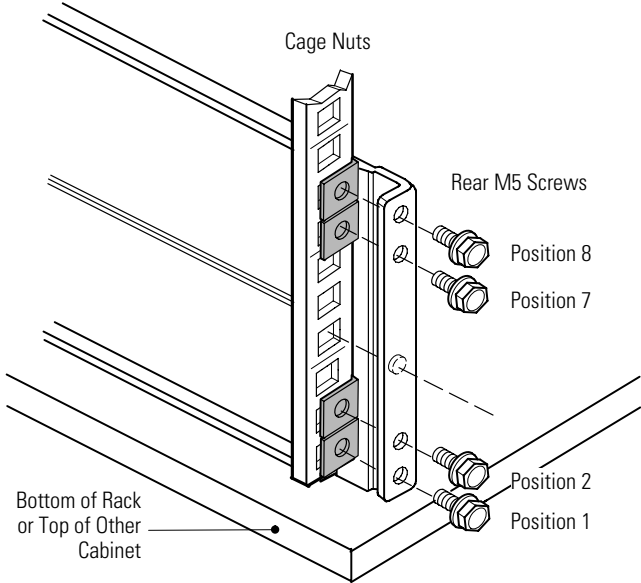

Figure 20. Securing the Rear Rail (Right Rail Assembly Shown)
- 5. Secure the rail to the rear of the rack with four M5 machine screws and clip or cage nuts (see Figure 20).